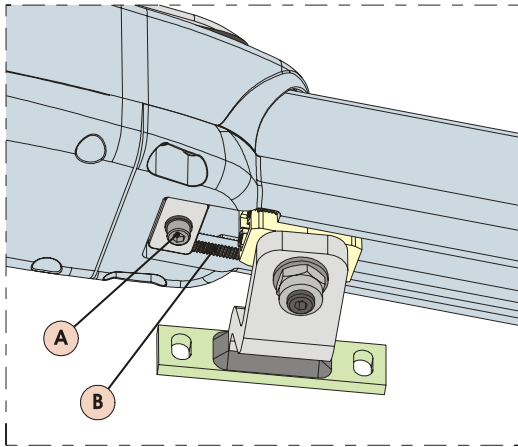

Fig. 17
- 3) Loosen the fastening screw, Fig.17 ref.A. Do not remove the screw.
IMPORTANT: The mechanical stop works coupled to a toothed sector, Fig. 17 ref. B. If there are any troubles during the movement, make sure that the coupling is free. **DO NOT FORCE.**